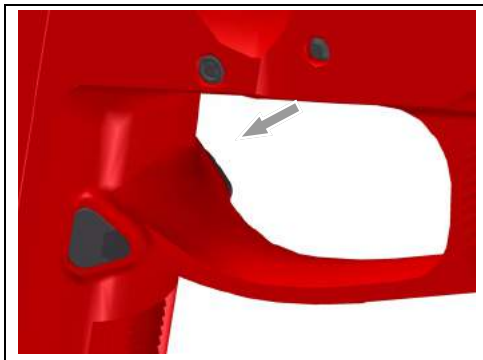

Fig. 5. Pushing in the magazine catch (illustration without trigger)
1. Push in magazine catch **24** until it projects slightly on the opposite side (see Fig. 5).